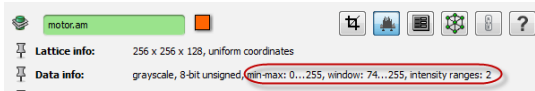

Figure 3.32: Intensity Range Partitioning in data info
- Select the data object motor.am in the Project View and look at the data info in the Properties panel (see Figure 3.32).